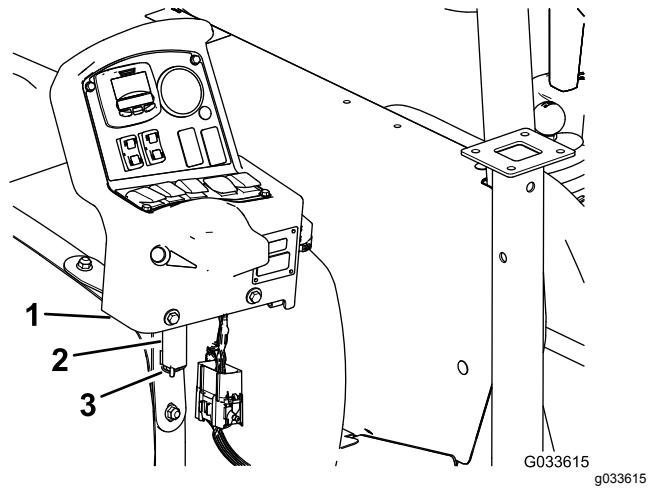

Figure 132
- 7. Remove the console from the console-mounting bracket at the dash of the machine and align the pivot pin on the control console with the storage bracket at the front tank strap (Figure 132); refer to Installing the Control Console to the Machine \(page 19\).
- 8. Assemble the console to the bracket and secure the pivot pin to the bracket with the hairpin (Figure 132).